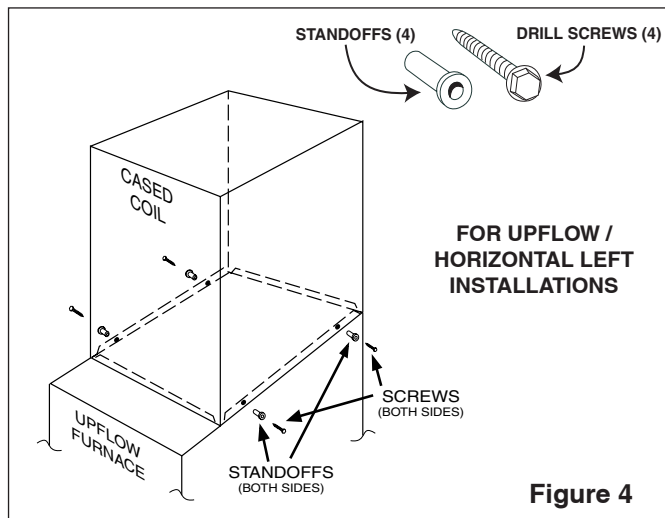

Figure 4
- c. Standoffs and screws are included with the cased coils for attachment to the furnace. There are clearance alignment holes near the bottom of the coil wrapper. Drill screws are used to engage the top flanges of the furnace. The standoff is inserted into the cabinet alignment hole. The drill screws are inserted through the standoffs then screwed into the furnace top flange. See Figure 4.
- Standoffs and screws are included with the cased coils for attachment to the furnace. There are clearance alignment holes near the bottom of the coil wrapper. Drill screws are used to engage the top flanges of the furnace. The standoff is inserted into the cabinet alignment hole. The drill screws are inserted through the standoffs then screwed into the furnace top flange. See Figure 4.